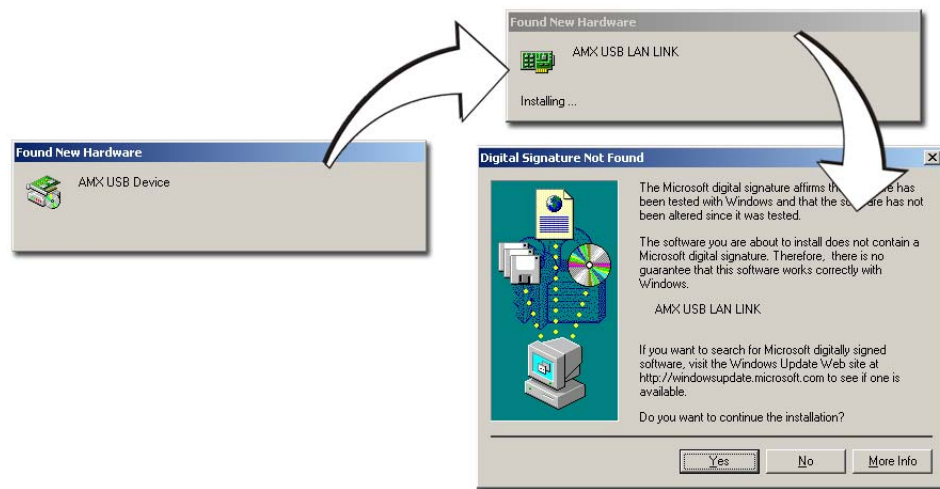

FIG. 75 USB driver installation popup window
8. **ONLY AFTER** the unit displays the first panel page, **THEN** insert the mini-USB connector into the Program Port on the panel. It may take a minute for the panel to detect the new connection and send a signal to the PC (*indicated by a green System Connection icon*). If this is your first time installing the USB driver, a USB driver installation popup window (FIG. 75) then appears on the screen.